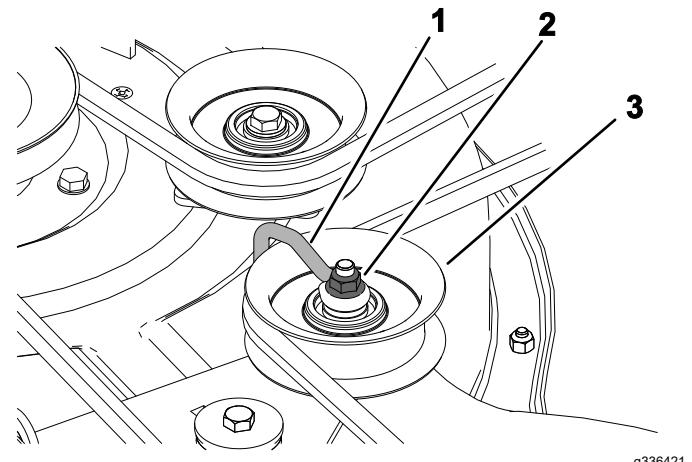

Figure 55
2. Screw (3)
6. Loosen the nut securing the wire form to the idler pulley (Figure 55).
**Note:** Position the wire form against the idler arm as shown in Figure 55.